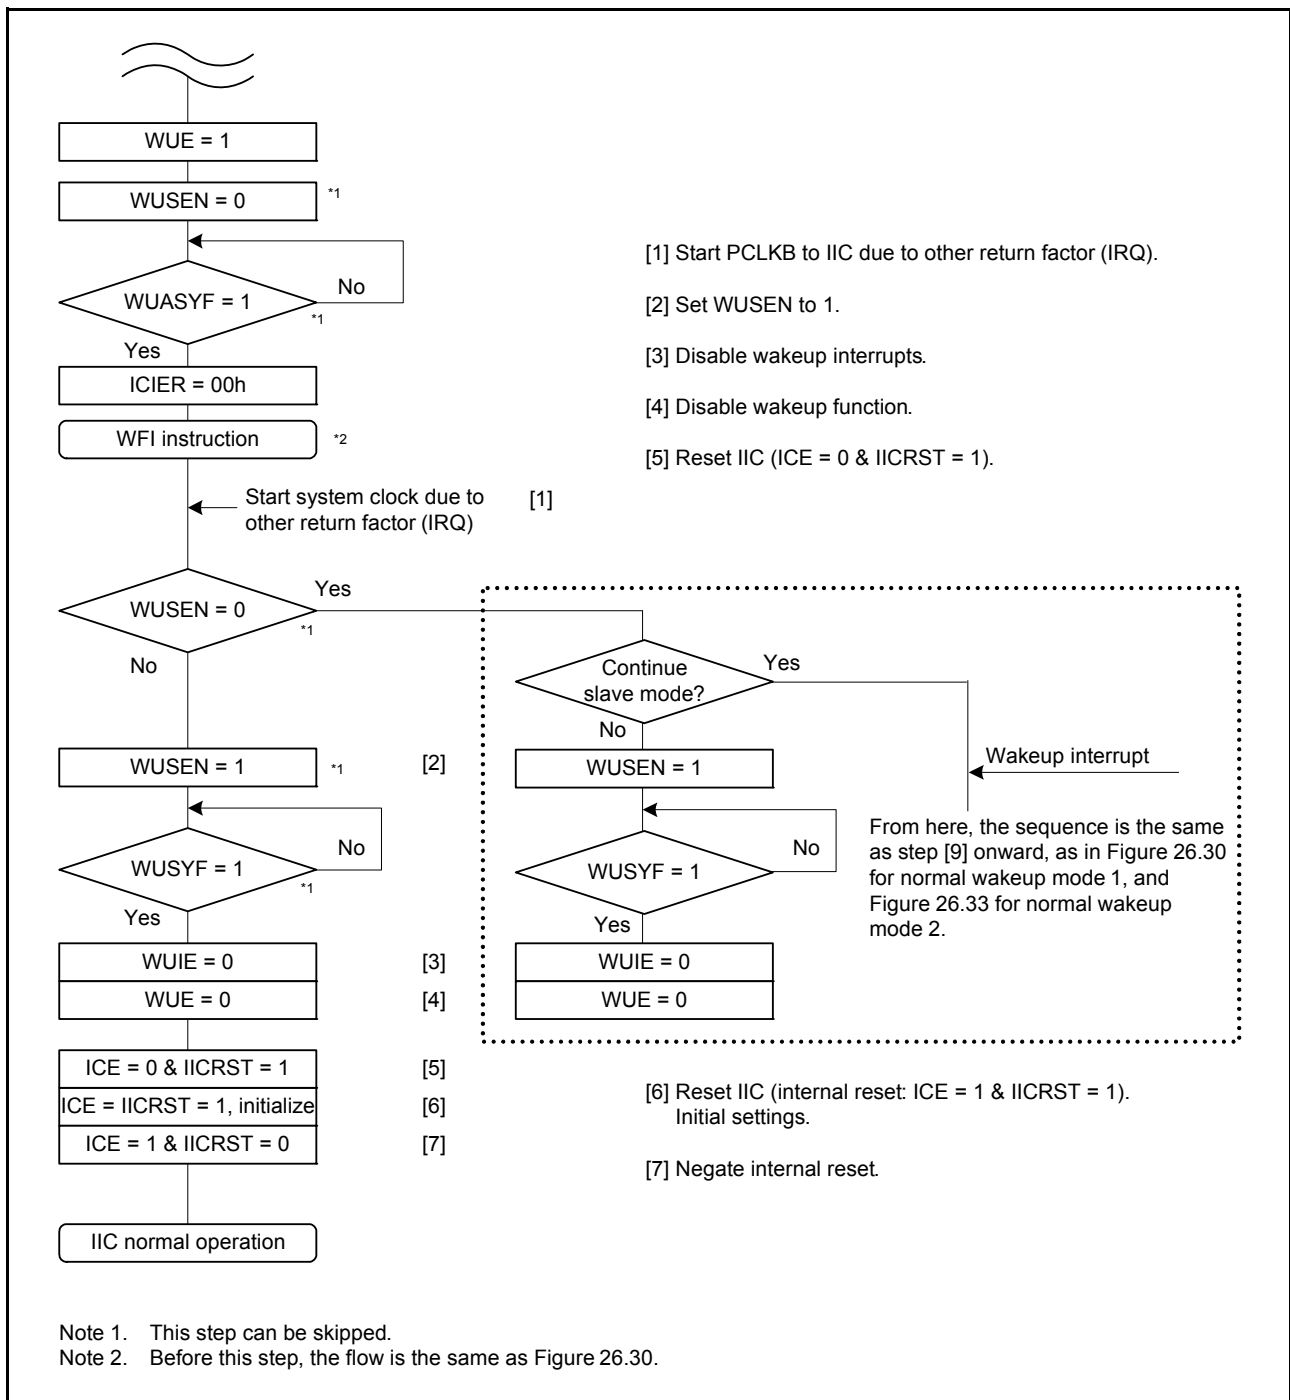

Figure 26.31 Example operation of normal wakeup modes 1 and 2 when wakeup by an interrupt other than IIC wakeup interrupt, for example, IRQn
2. If the transition from Software Standby mode is triggered by an interrupt other than a wakeup interrupt, for example IRQn, the WUF flag is not set to 1. Follow the processing shown in Figure 26.31.